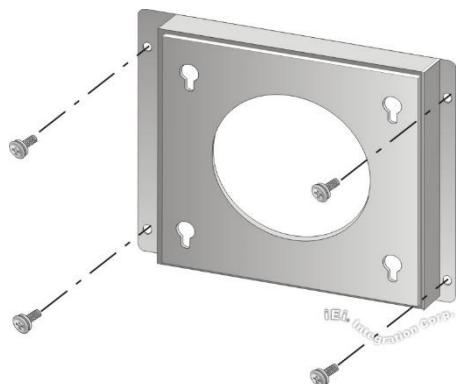

Figure 3-13: Wall-mounting Bracket
Step 5: Secure the mounting bracket to the wall by inserting the retention screws into the four pilot holes and tightening them (**Figure 3-13**).